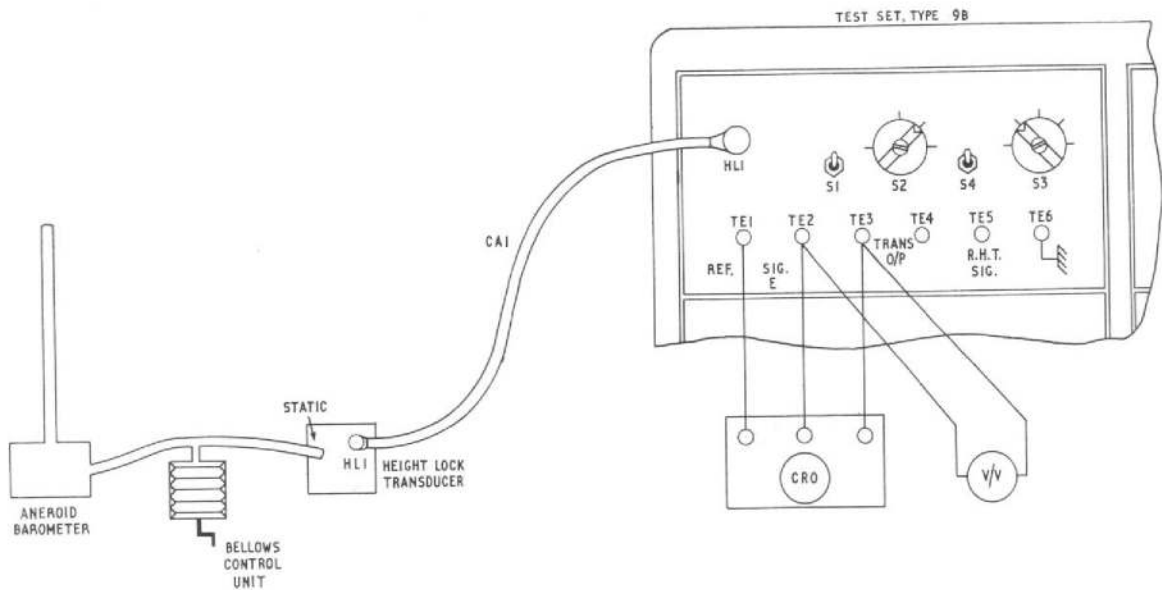

Fig. 1. Transducer connected for test using bellows and barometer
11. (1) Connect the height lock transducer for test as shown in fig. 1. Set the pressure on the STATIC input on the transducer to 1013.5 mb. Strap vibrator to transducer and switch on vibrator.
16. (1) Connect the transducer for test as shown in fig. 1, with the pressure on the static input to the transducer at 1013.3 mb.
in fig. 1, but with the static connection open to atmosphere.